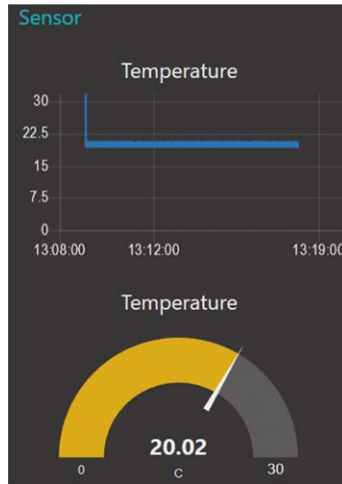

Figure 13.16 Displaying the temperature using gauge and chart
- Click **Deploy** and you should see the temperature displayed in the Dashboard using a gauge and a chart as shown in Figure 13.16